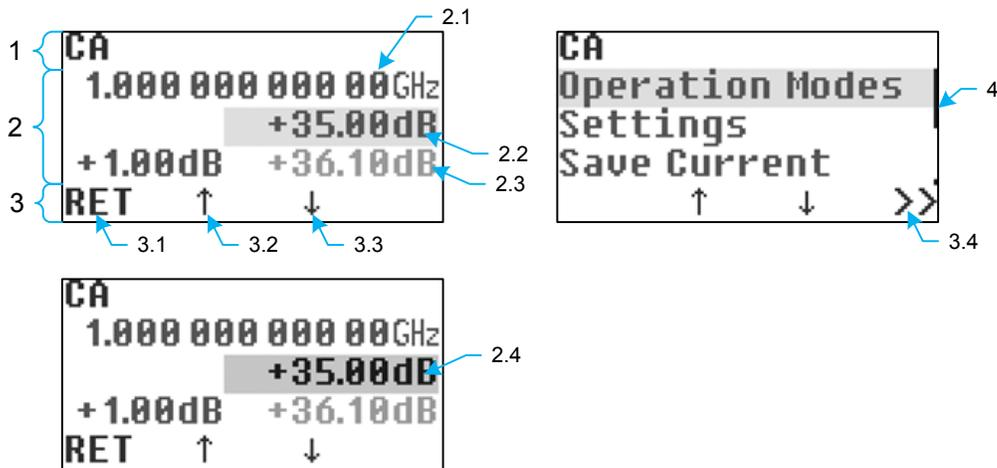

Figure 5: Display
Figure 5 shows the display screen view. It is divided into several fields: *Status Bar* (1), *Menu Items* which can be textual, numeric and graphical (2), *Context Sensitive Menu* (3) which depends on the currently selected item, and *Scroll bar* (4) showing the current position of the displayed window relative to the whole menu item list. Menu consists of the items arranged in left-to-right and top-to-bottom order (2.1-2.4). The number of the items can vary from a few to dozens making up several lines of the screen. One line can contain more than one item. In the case of more than three lines scroll bar appears on the screen. Some items can be shaded (have less brightness, 2.3). It means that in this operation mode these items are blocked (not used) or used only to display information (i.e. not editable by the user) or can't be used to launch the operation corresponding this
The default state of the rotary knob is the menu navigation mode. Single click the knob on the selected numerical menu item (e.g. see fig. 5, item. 2.2)